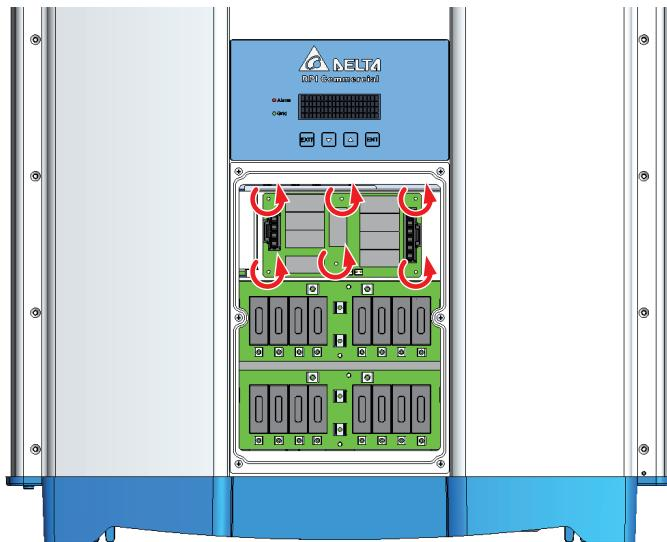

Figure 6-3 : Loosen the 6 screws
4. Loosen the 6 screws. (*Figure 6-3*)